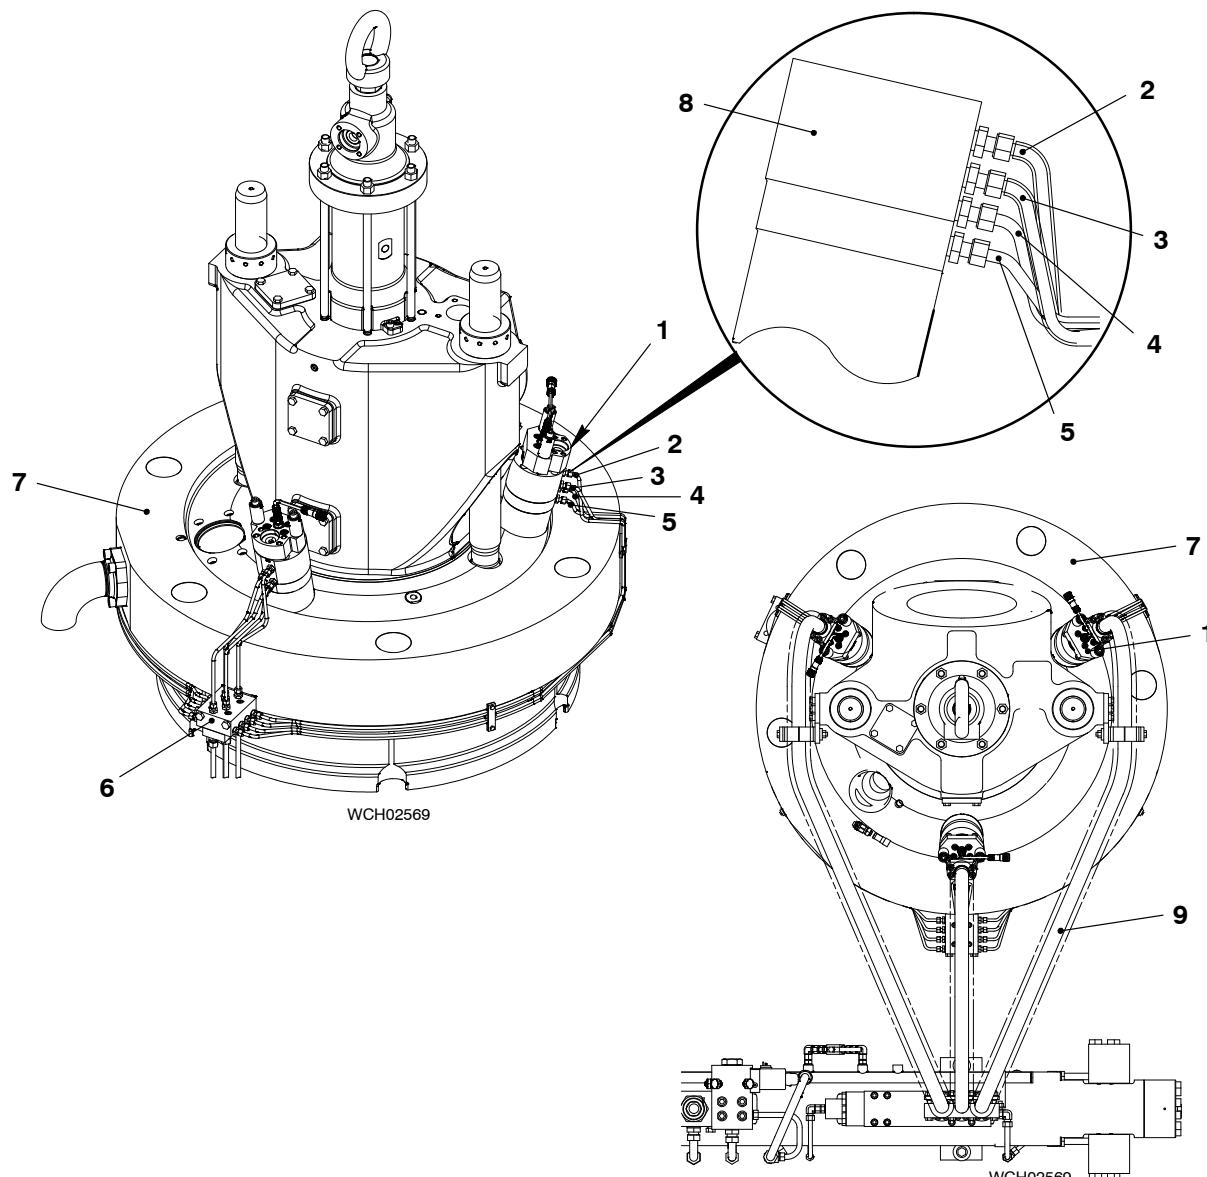

Fig. 1: Location of Injection Valves
Three injection valves (1, Fig. 1) are installed in each cylinder cover.
Fuel flows through the high pressure (HP) fuel pipes (9, Fig. 1) to the three injection valves (1).